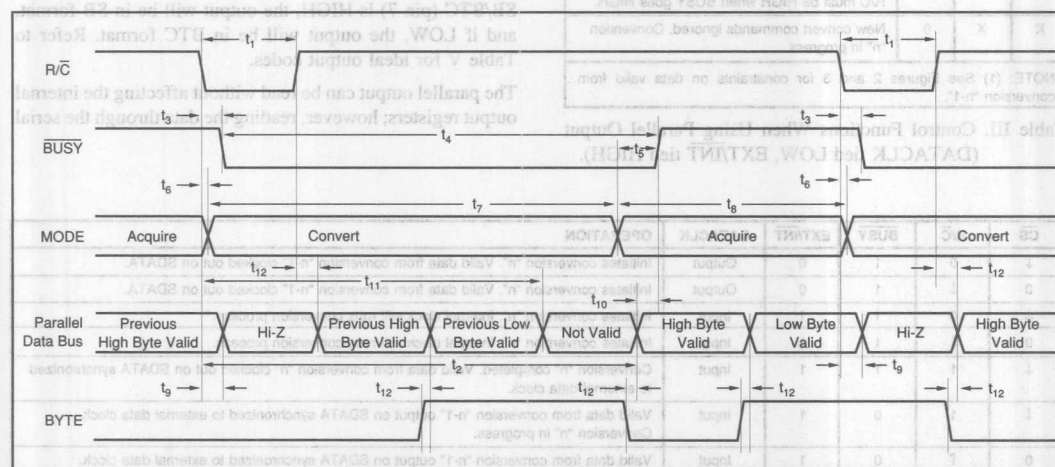

FIGURE 2. Conversion Timing with Parallel Output (CS and DATACLK tied LOW, EXT/INT tied HIGH).
The ADS7807 will begin tracking the input signal at the end of the conversion. Allowing 25μs between convert commands assures accurate acquisition of a new signal. Refer to Tables III and IV for a summary of \overline{CS} , R/\overline{C} , and $BUSY$ states and Figures 2 through 6 for timing diagrams.
NOTE: (1) See Figures 2 and 3 for constraints on data valid from conversion "n-1".
After conversion 'n' is completed and the output registers have been updated, BUSY (pin 24) will go HIGH. Valid data from conversion 'n' will be available on D7-D0 (pins 9-13 and 15-17). BUSY going high can be used to latch the data. Refer to Table VI and Figures 2 and 3 for timing constraints.
After conversion 'n' has been initiated, valid data from conversion 'n-1' can be read and will be valid up to 12μs after the start of conversion 'n'. Do not attempt to read data beyond 12μs after the start of conversion 'n' until BUSY (pin 24) goes HIGH; this may result in reading invalid data. Refer to Table VI and Figures 2 and 3 for timing constraints.